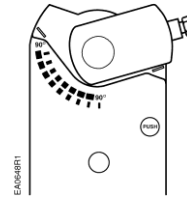

**Figure 12.**
2. Remove the clip and shaft adapter from the actuator. See Figure 12.